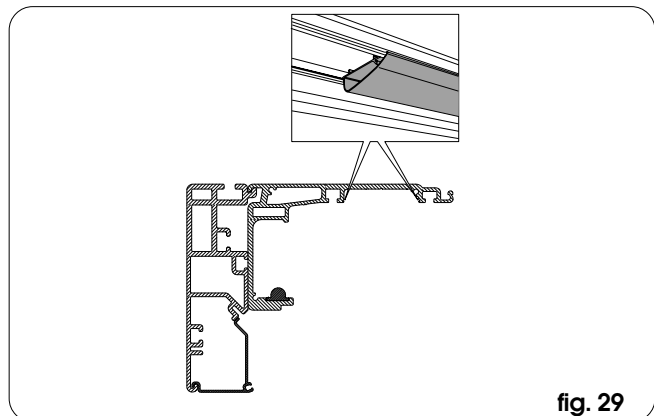

fig. 29
- Press to insert the cable raceways in that part of seat of the support profile not occupied by the activation module (fig. 29).